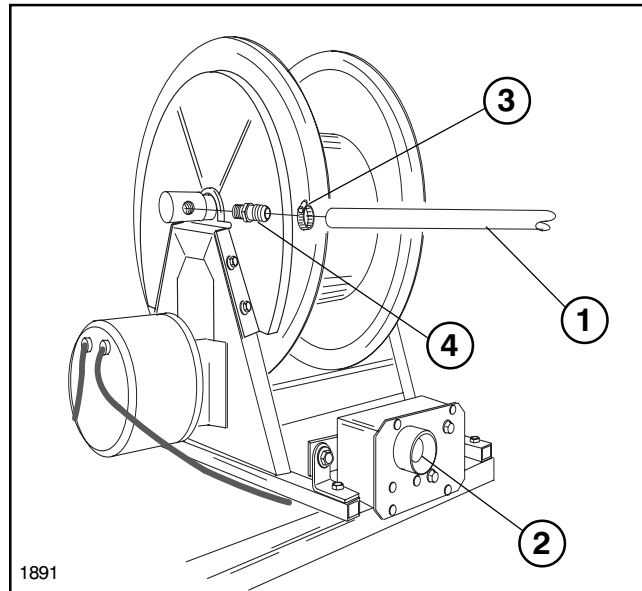

FIG. 3
1. Install the hose barb into the Swivel Assembly as shown in FIG. 3 and secure the Supply Hose with a Hose Clamp.